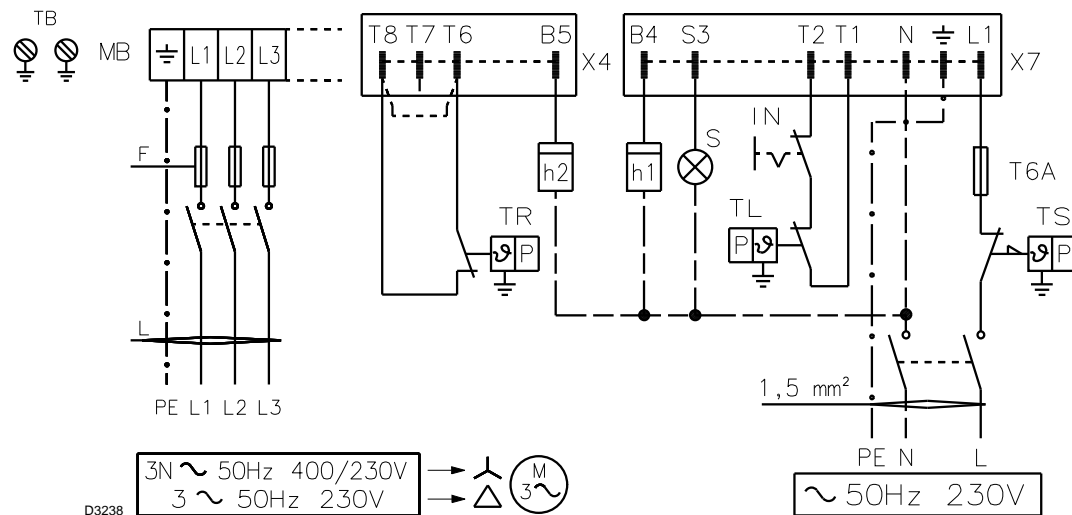

Fig. 17
Fuses and cables cross-section (Fig. 17), see Tab. C.
Alternatively, if single stage operation is required, instead of control device TR install a jumper lead between terminal T8 and T6 (Fig. 17).
Key to layout (Fig. 17)
- The burners are factory set for two-stage operation and must therefore be connected to control device TR. Alternatively, if single stage operation is required, instead of control device TR install a jumper lead between terminals T8 and T6 (Fig. 17).